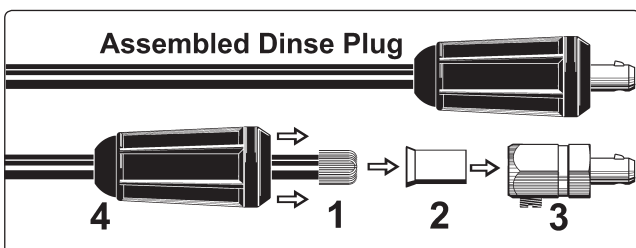
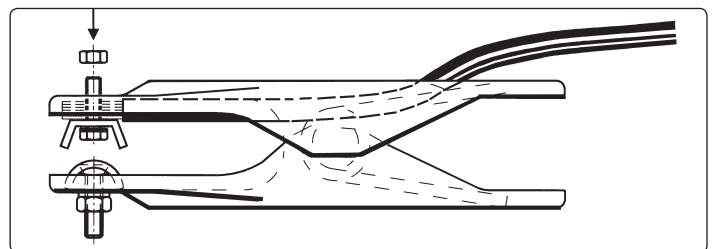

fig.3
fig.4
- 4.2. **WELDING CABLE CONNECTIONS.** The torch cable is supplied ready assembled but it may be necessary for you to assemble the work clamp cable. Attach the work clamp to one end of the cable as shown in fig.4. To connect the Dinse Plug as shown in fig.3 first thread the cable through the outer cover of the plug (see fig.3 - 4). Now remove 20mm of insulation sheath from the end of the cable and fold back the copper wire all around the outside of the sheath (1). Push the cable end into the copper sleeve (2) so that the folded back wire makes good contact with the inside of the sleeve. Push the copper sleeve into the brass plug body (3) and tighten the large grub screw until the cable is firmly held. Now slide the outer plug cover up the cable and press the brass body into it as shown in fig.3.